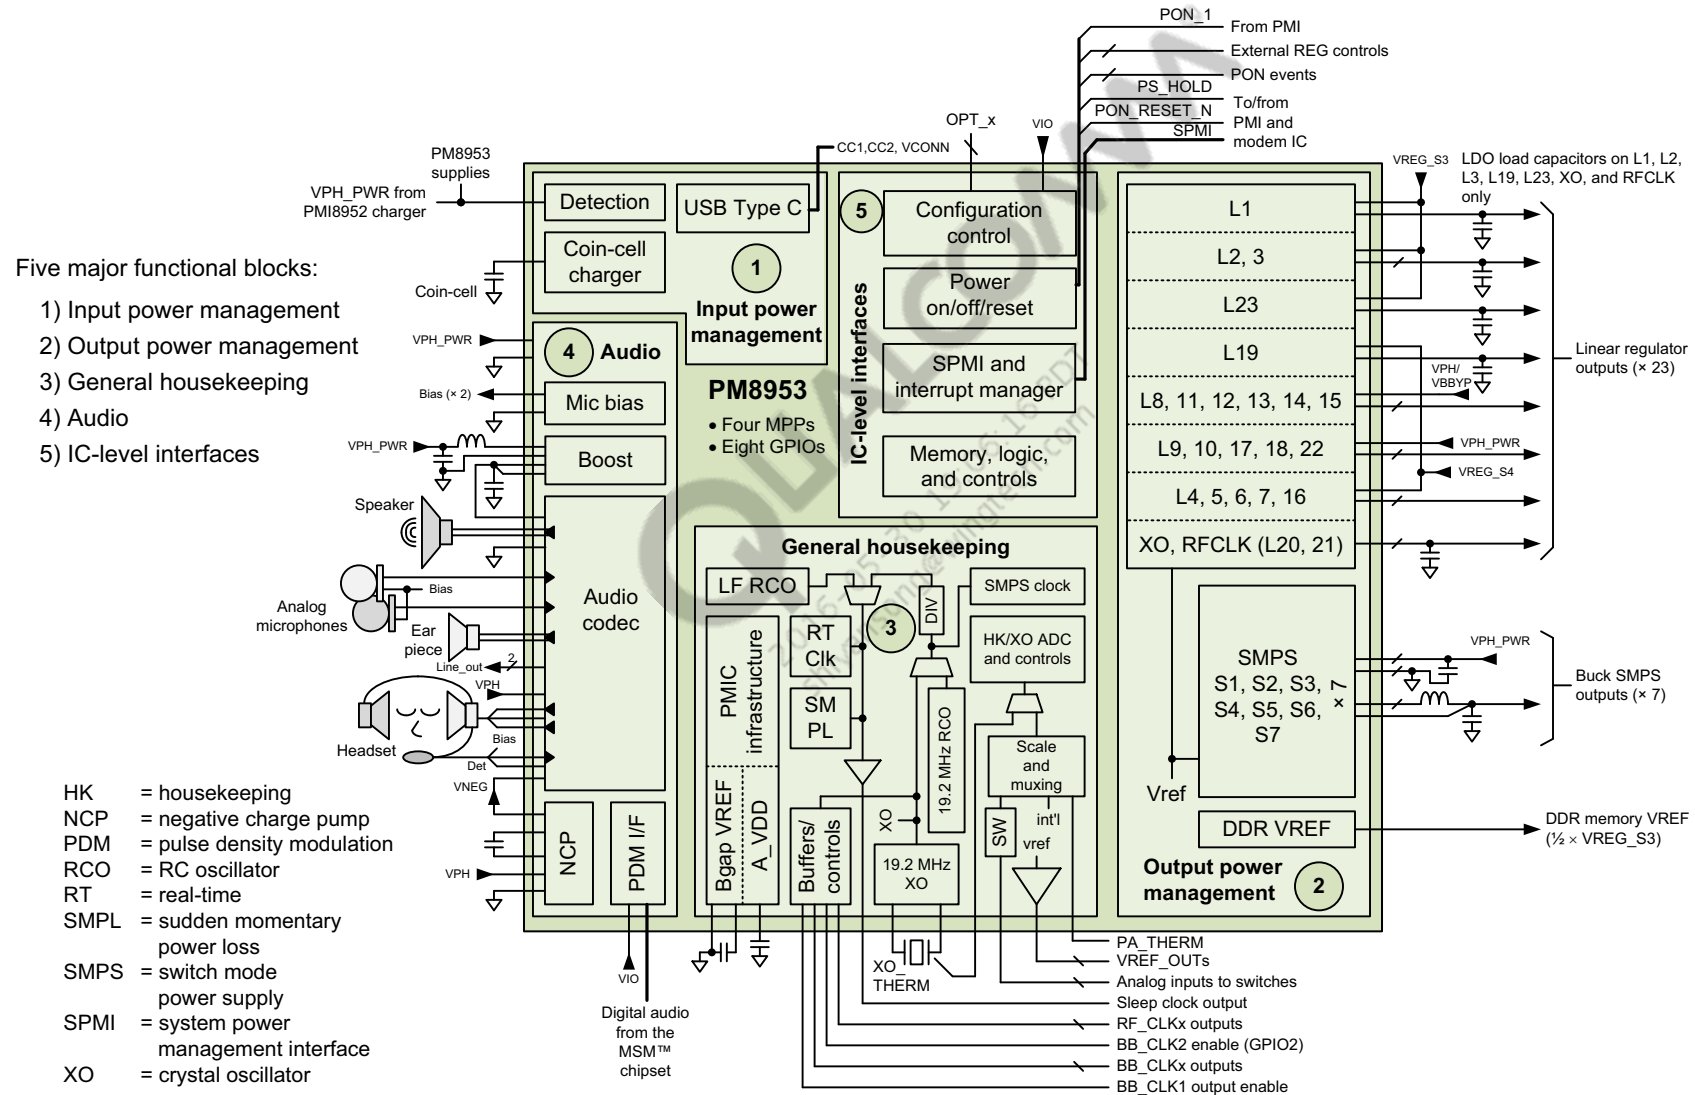

Figure 1-1 PM8953 functional block diagram and example application
The PM8953 device (Figure 1-1) plus its companion PMI8952 (80-NT391-x) device, integrates all wireless handset power management, general housekeeping (HK), and user interface support functions into two IC solutions.